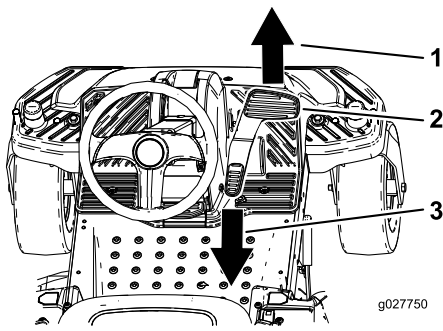

Figure 13
3. Place your foot onto the traction-control pedal and slowly press the top of the pedal to go forward or press on the bottom of the pedal to move backward (Figure 13).